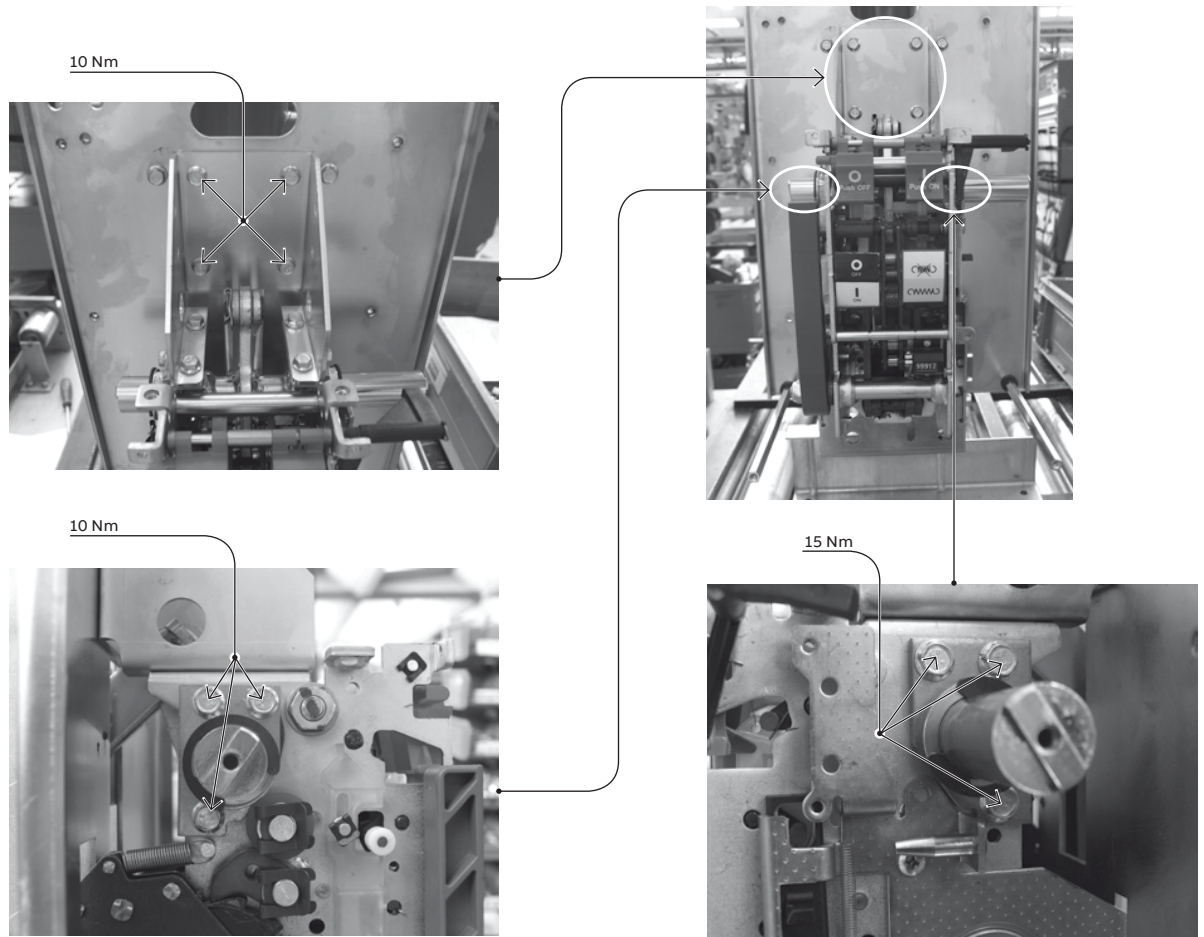

Figure 11
- The screws and nuts are tightened in the factory and correct tightening is indicated with a coloured mark. No further tightening operations should be required during the operating life of the circuit breaker. However, if, following interventions, it should be necessary to retighten the screws or nuts, make sure that you comply with the values indicated in fig. 11.